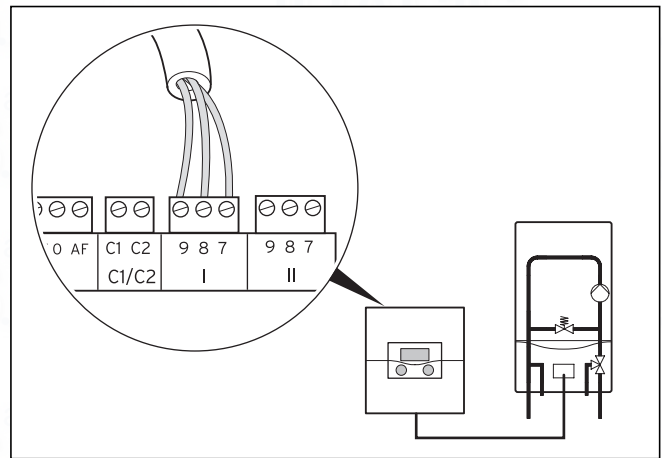

Fig. 5.1 Connecting the boiler
- Carry out the wiring of the boiler with the connecting cable (min. 3x 0.75 mm²) (→ **Fig. 5.1**).